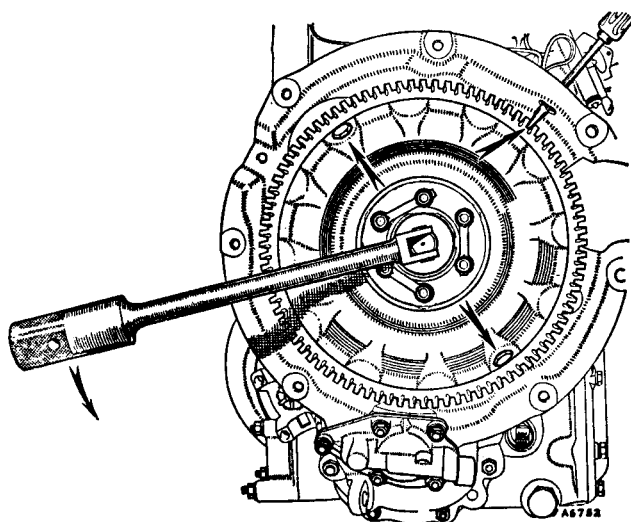

Fig. Aa.6
5. Knock back the lock washer on the converter centre bolt. Hold the converter from turning with a suitable screwdriver inserted through the hole in the converter housing. Using Service tool 18G 587, remove the centre bolt (Fig. Aa.6).